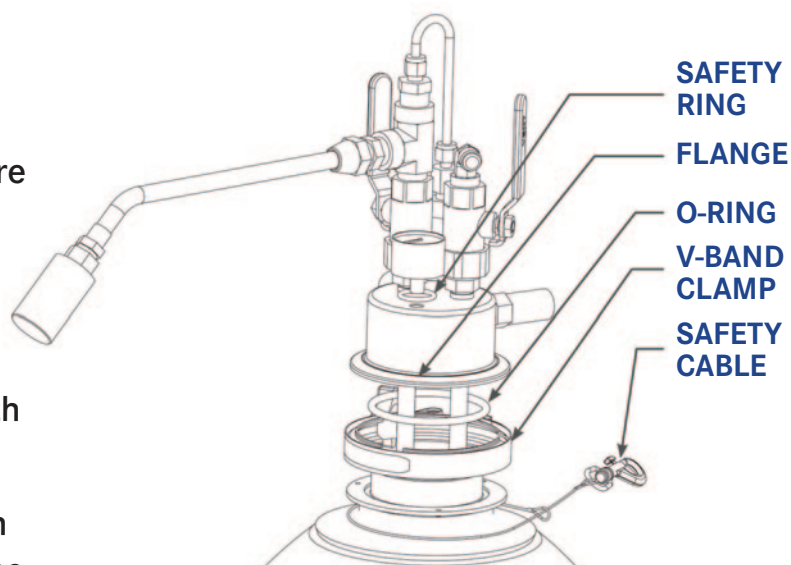

FIGURE 2
5. Position the safety cable assembly around the top of the Dewar, underneath the flange. Loosen V-Band Clamp until the clamp is large enough to remove from the LWD. Drop the band clamp around the flange on the Dewar (see Figure 2 on next page).
10. Attach the snap of the safety cable to the ring on the LWD (see figure 2 next page).